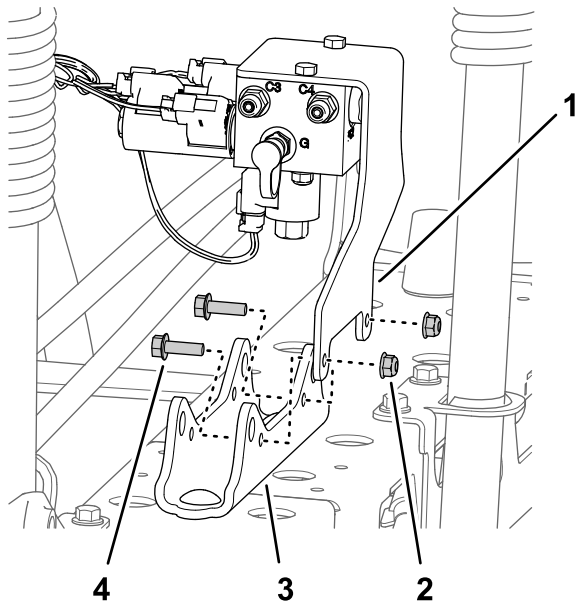

Figure 41
- **For machines without the optional ultra sonic boom leveling kit:** remove the 2 flange locknuts (5/16 inch) and 2 flange-head bolts (5/16 x 1 inch) that secure the support bracket for the section-lift manifold to the cylinder mount, and separate the manifold and bracket from the cylinder mount (Figure 41).